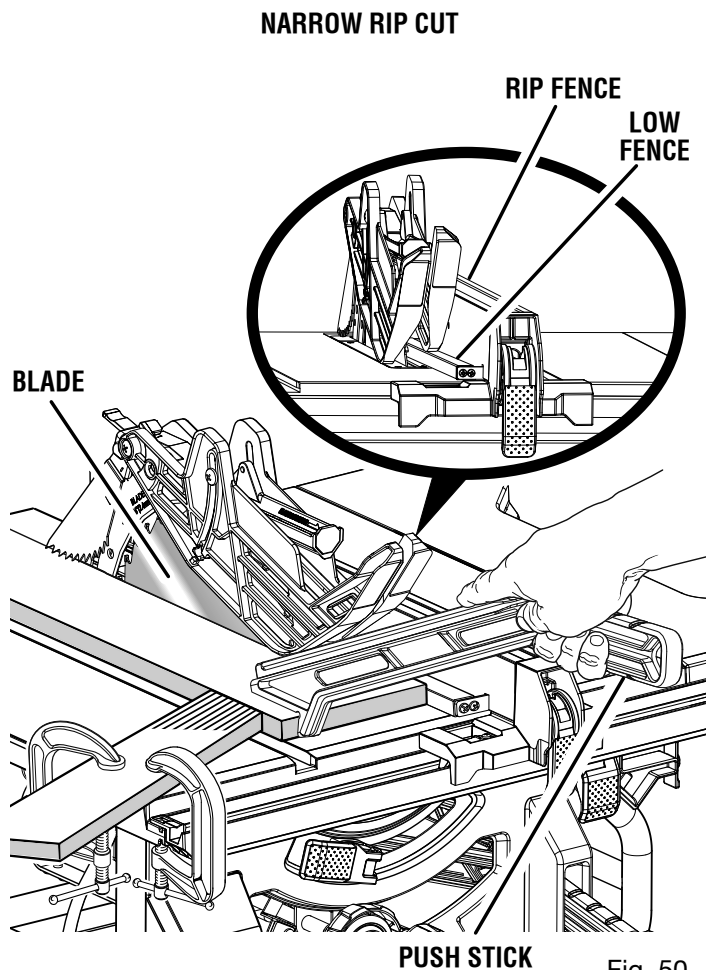

Fig. 50
**NOTE:** The cutting operation illustrated in figure 50 will result in the saved piece being between the rip fence and the right side of the blade. Alternatively, you could place the rip fence and the wide portion of the workpiece on the right side of the blade, which would result in the saved piece being on the left.